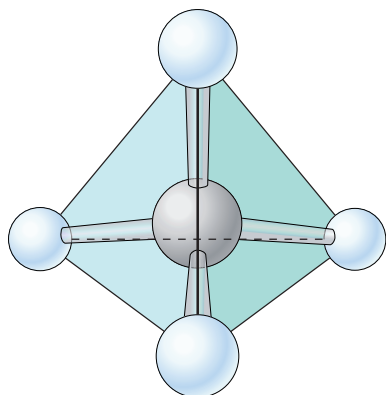

Figure 7 The tetrahedral shape of a methane molecule.
2. Compare your three-dimensional model of methane to the representation of a tetrahedral molecule in Figure 7.
- a. How does the two-dimensional drawing (Figure 7) incorporate features that aid in visualizing the three-dimensional structure?